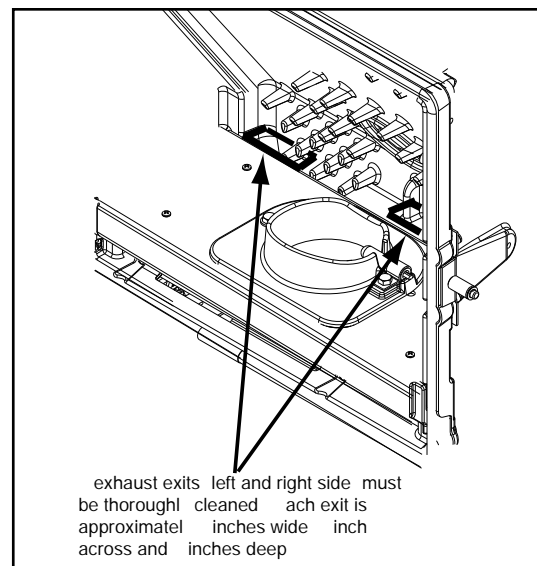

Figure 33.4
- e. Use the crevice tool to finish cleaning the heat exchanger fins. It is critical that the 2 exhaust exits at the back of the firebox floor (left and right) be thoroughly cleaned. **Figure 33.4**. There are several ways this can done.